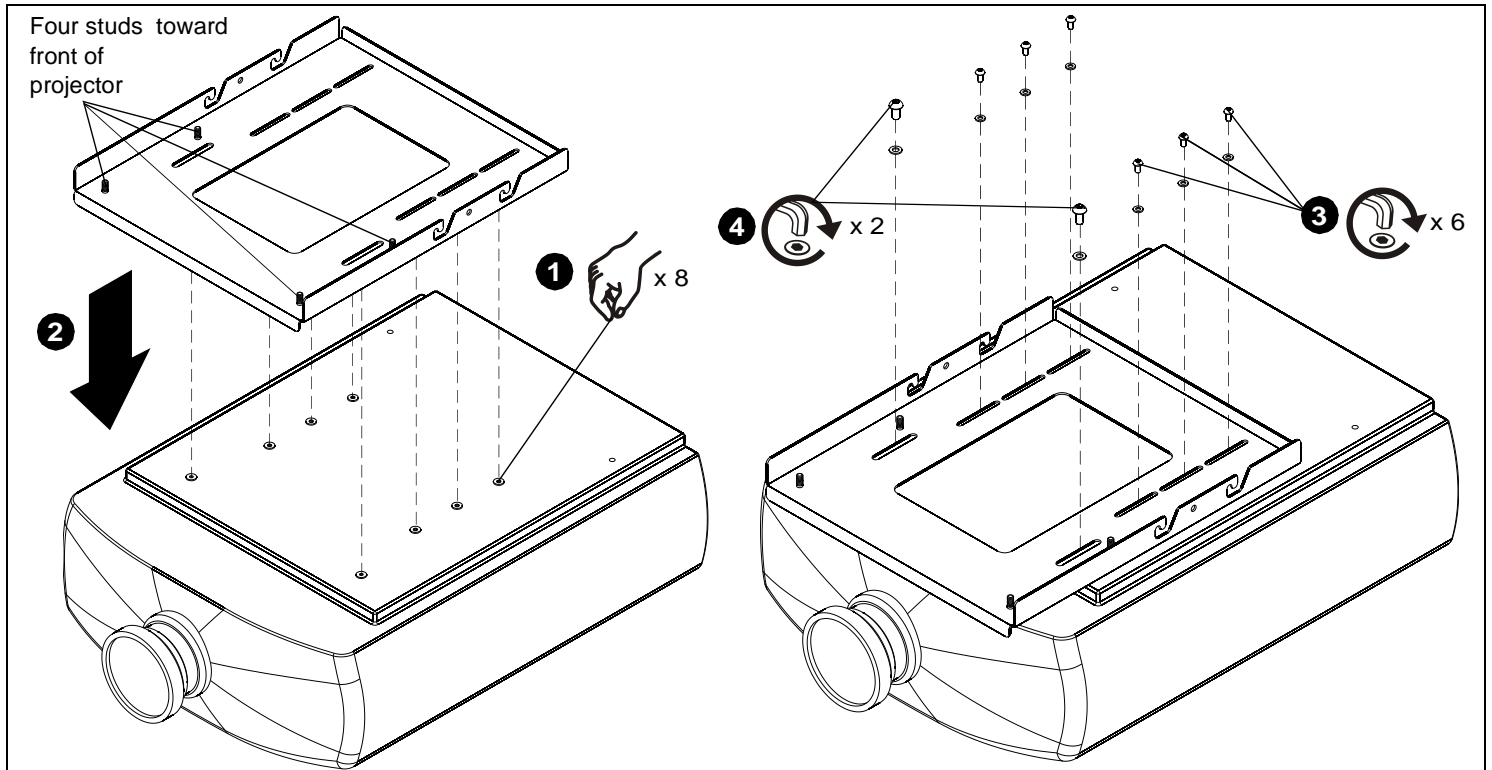

Figure 1:
1. Place nylon spacers on top of projector in 8 places. (See Figure 1)
2. Lower custom HB bracket onto nylon spacers. Ensure that the four studs are toward the front of the projector. (See Figure 1)
3. Attach HB bracket to projector using six M6 button head cap screws and 1/4" flat washers. (See Figure 1)
4. Install two M8 button head cap screws and M8 flat washers. (See Figure 1)